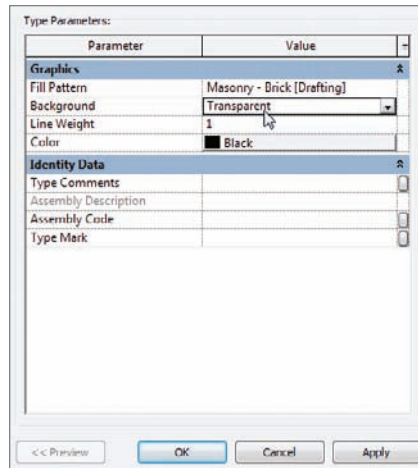

FIGURE 12.20 Changing the background to Transparent
10. Change the background from Opaque to Transparent, as shown in Figure 12.20.